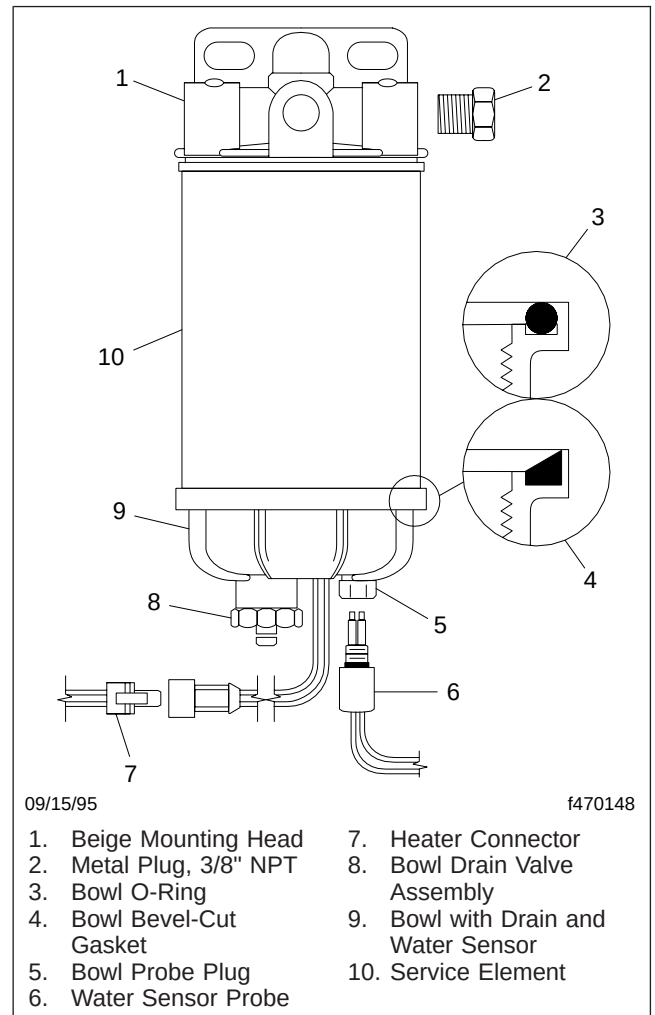

Fig. 3, Racor 690 Fuel Separator
- 8.1 Remove the 3/8-inch metal plug located at the top of the fuel/water separator (see **Fig. 3**, Ref. 2), and manually fill the unit with diesel fuel.